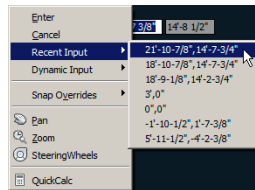

FIGURE 2.13 Drawing a new line from the end of the previous line
4. Right-click in the drawing canvas, and hold (for longer than 250 milliseconds) to open the context menu. Select the first coordinate value from the Recent Input menu (see Figure 2.13).